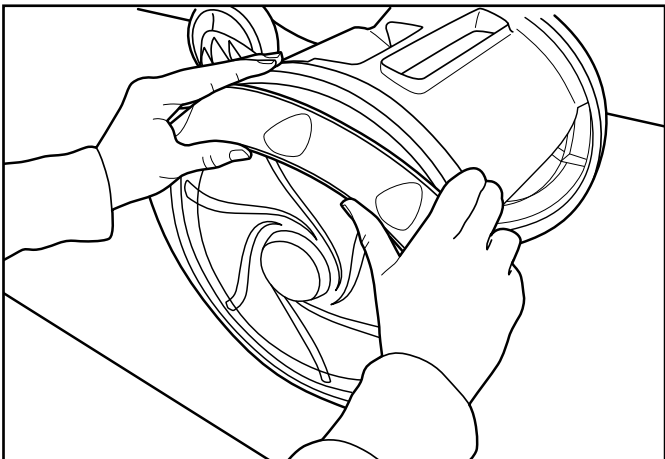

Figure 18. Remove the Old Tyre From the Cleaner
2. Remove the old tyre as shown in Figure 18.